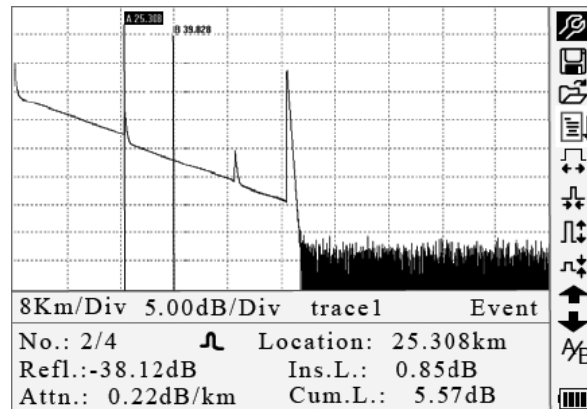
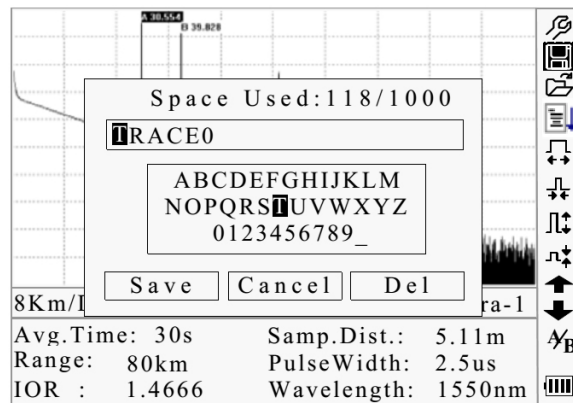

Figure 4-4. Trace Measurement
Figure 4-6. Save a Trace
Note: After a certain period of time, the trace displays on the GUI. The trace in the figure below is a trace during measurement, which will be refreshed for every certain period of time to demonstrate the whole process in realtime. But at the end of measurement the trace will be complete, as shown in Figure 4-4.
Under GUI (Figure 4-4) press  and the items in the information window will display in this order: measurement parameters → analysis information → events list → marker A/B information → fiber information → measurement parameters.
Under GUI (Figure 4-4) press  until the events list information appears in the information window.
Under GUI (Figure 4-4) use  and  to highlight ^A/_B, and then press Enter to switch between marker A/B.
Under GUI (Figure 4-4) press **↶** to switch information window to marker A/B information.
1. Under GUI (Figure 4-4) use **▲** and **▼** to highlight **↔**, and then press Enter to zoom out the trace horizontally.
Under GUI (Figure 4-4) use **▲** and **▼** to highlight **↔**, and then press Enter to zoom out the trace vertically.
1. Under GUI (Figure 4-4) use **▲** and **▼** to highlight **↕**, and then press Enter to zoom out the trace vertically.
Under GUI (Figure 4-4) use **▲** and **▼** to highlight **↕**, and then press Enter to zoom in the trace vertically.
1. Under GUI (Figure 4-4) use **▲** and **▼** to highlight **📁**, and then press Enter to enter (Figure 4-6).
1. Under GUI (Figure 4-4) use ▲ and ▼ to highlight , and then press Enter to confirm (Figure 4-7).